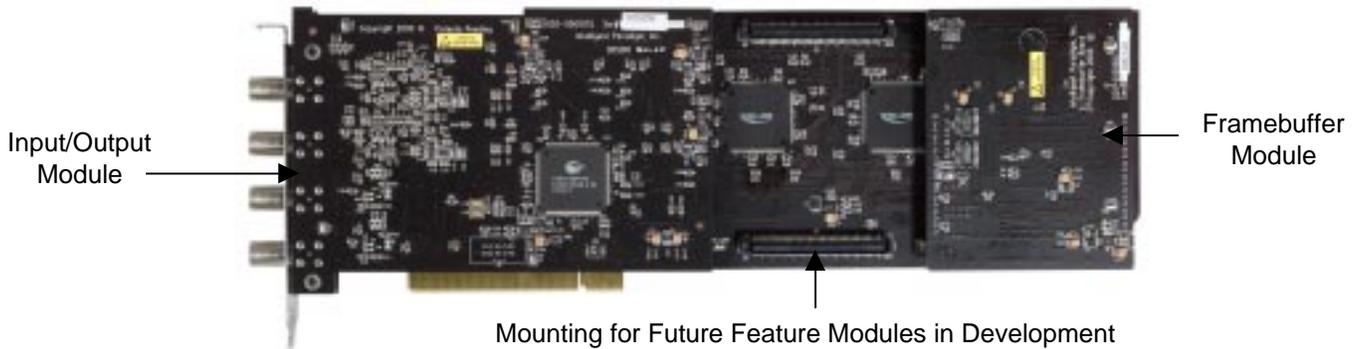

Figure 2 Video Explorer 2 System with Dual Serial Digital I/O Module and Framebuffer Module
3. Remove the Video Explorer 2 (See Figure 2) from its anti-static packaging, taking care to ground yourself by touching the computer’s power supply before handling the card as described in step 4 of Preparation section.